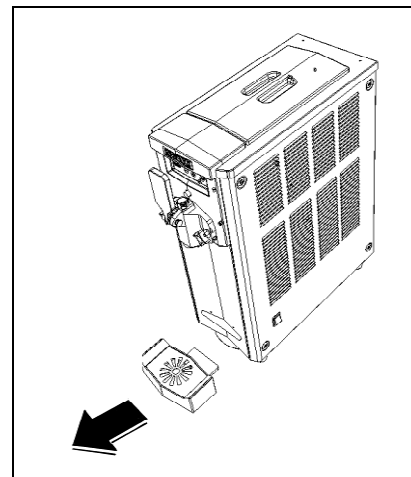

Fig. 25
- Remove the drip tray by pulling it gently outwards (fig. 25) and wash it thoroughly with hot water and washing-up liquid.